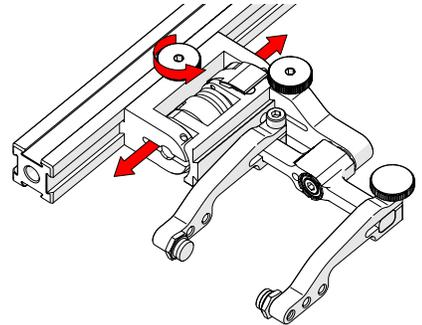

Fig. 100 - Adjust on frame bar
2. Use the probe holder adjustment knob to position the probe holder along the frame bar (Fig. 100).